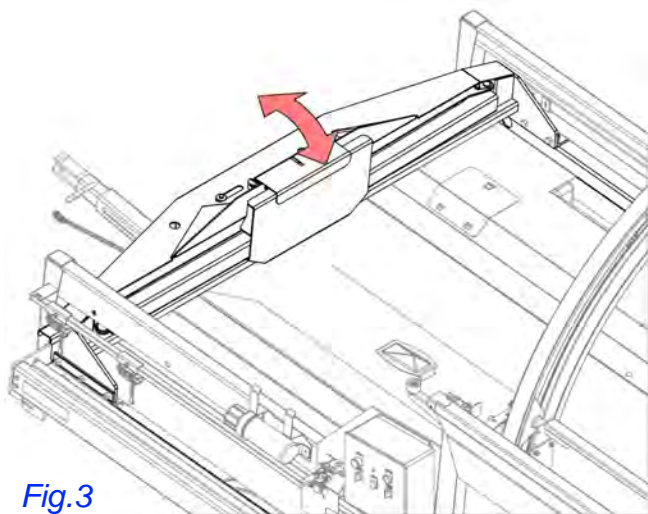

Fig.3
9. Lift ram home latch from locked position. See Fig.3.